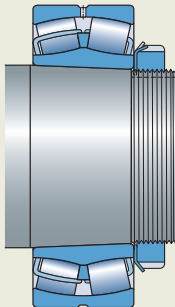

Fig. 19
- an adapter sleeve and a distance ring (fig. 19), if precise axial positioning is required or elevated axial loads occur